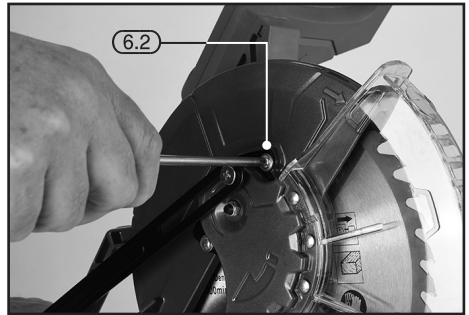

FIG.20
#### – FIGS.20 – 25
- Raise the plunge handle (4) to its highest position.
**Stock No.79889 (Fig.20):**